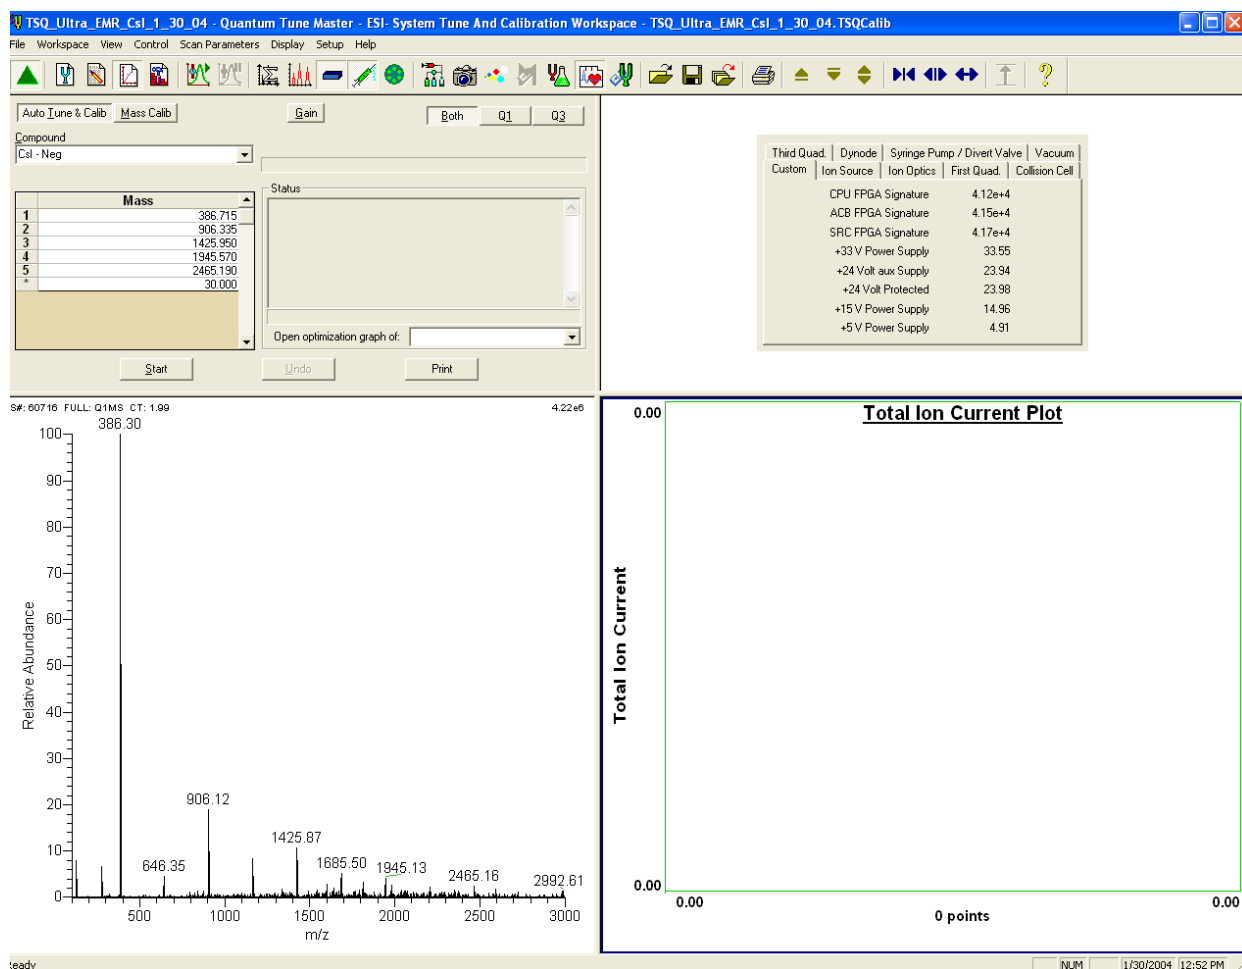

Figure 3-19. System Tune and Calibration workspace, showing preparation for negative ion mode tuning and calibration
4. In the System Tune and Calibration view in the top left corner of the workspace, select *CsI-Neg* from the Compound list box. This selects the fifteen negatively-charged cesium iodide related ions to be used for automatic tuning and calibration. See Figure 3-19.